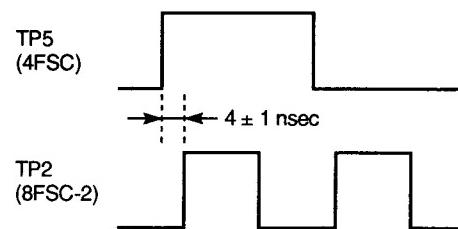

Fig. 5-1-4
- Adjust CT1 to obtain $4 \pm 1 \text{ nsec}$ as shown in Fig. 5-1-4.